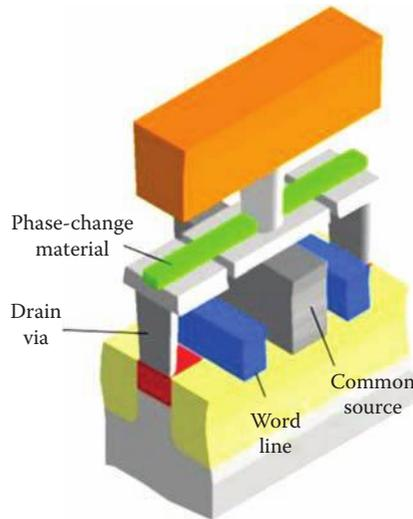

FIGURE 13.41
Stop #3: Phase change memory. Phase-change memory (Chalcogenide RAM or C-RAM) is a new type of nonvolatile memory. C-RAMs exploit the unique properties of so-called ^achalcogenide glasses.^o Say what?! Recall: The chalcogens are the chemical elements in Group XVI (16) of the periodic table and consists of the elements oxygen (O), sulfur (S), selenium (Se), tellurium (Te), and the radioactive element polonium (Po). Chalcogenide glasses (C-glasses) are glasses that contain one or more chalcogens. Duh! C-glasses that are useful for memory apps include: GeSbTe and AgInSbTe. In phase change memory, heat produced by the passage of a current through a heating element is used either to: (1) quickly heat and thus quench the glass, making it amorphous, or (2) to hold it in its crystallization temperature range, thereby switching it to a crystalline state (Figure 13.41) [33]. That is, we change the resistance of the C-glass layer via a phase change! Quite clever. C-RAM also has the ability to achieve a number of distinct intermediary states (i.e., intermediate phase states), thereby having the ability to hold multiple bits in a single memory cell, which is quite novel (and useful!).